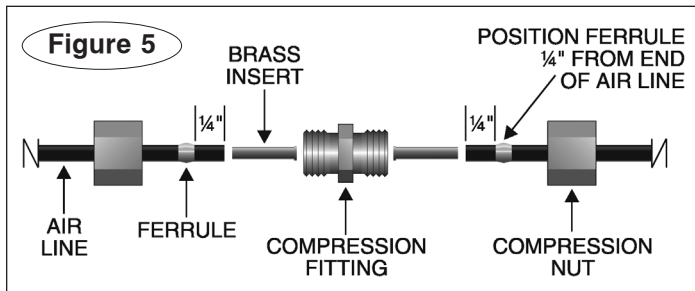

**Figure 4**
1. At the top of the break away air reservoir (Figure 2), attach one end of the included air line to the brass "air in" compression fitting – first, if necessary, trim the end of the air line, to make a smooth and straight cut. Then slide the compression nut and the ferrule (Figure 4) over the air line. Position the ferrule 1/4" from the end of the air line.
Next, slide one of the brass inserts (Figure 4) into the end of the line.